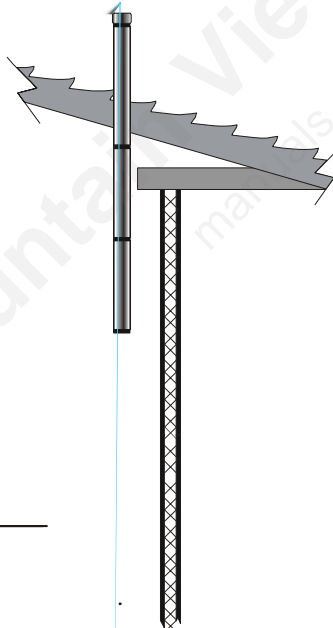

Figure 25
-  The stove must have a permanent outside air source with a ¼ inch screen over the inlet. Figure 25, (B, C & D)
-  Chimney/PL Vent must be 3" or 4" PL Vent and must extend a minimum of 36" above the roofline of the mobile home and must be installed using a UL / ULC listed ceiling fire stop (J), figure 25, and rain cap (L), figure 25.